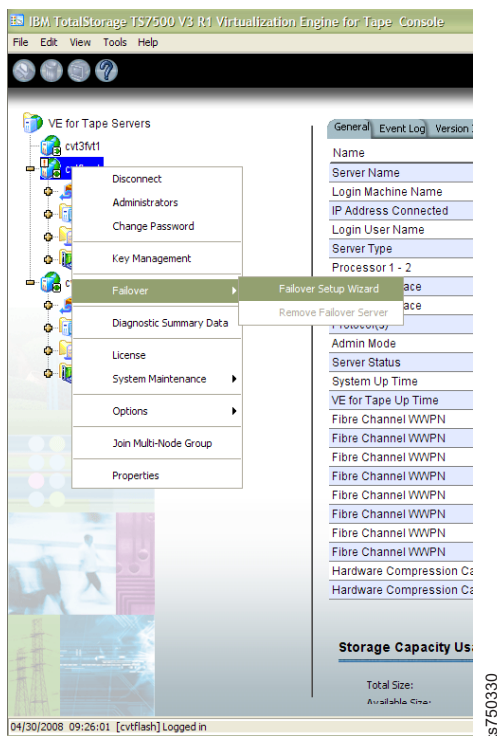

Figure 18. Starting the Failover Setup Wizard
3. \_\_\_ Right-click the lower TS7530 Server icon and then click **Failover > Failover Setup Wizard**. Figure 18 shows this step for the lower server. The Failover Setup Wizard starts.